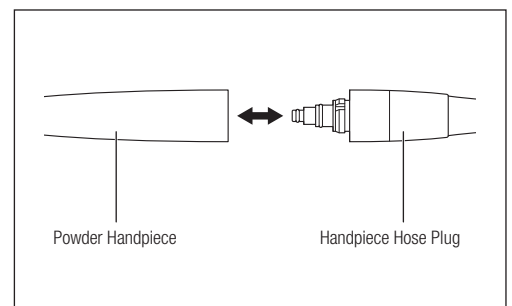

Fig. 9
- 2) Push the Powder Handpiece straight into the Handpiece Hose Plug (Fig. 9).